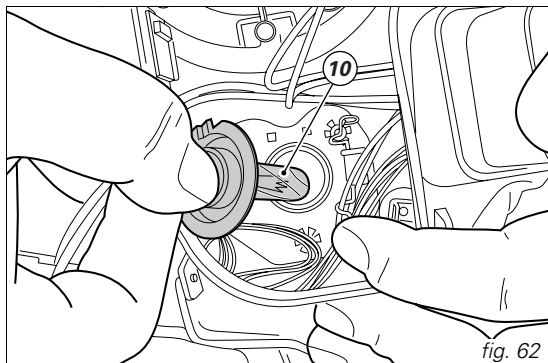

fig. 62
Remove the burned out bulb (10) and fit the new one, taking care not to touch the glass (fig. 62).